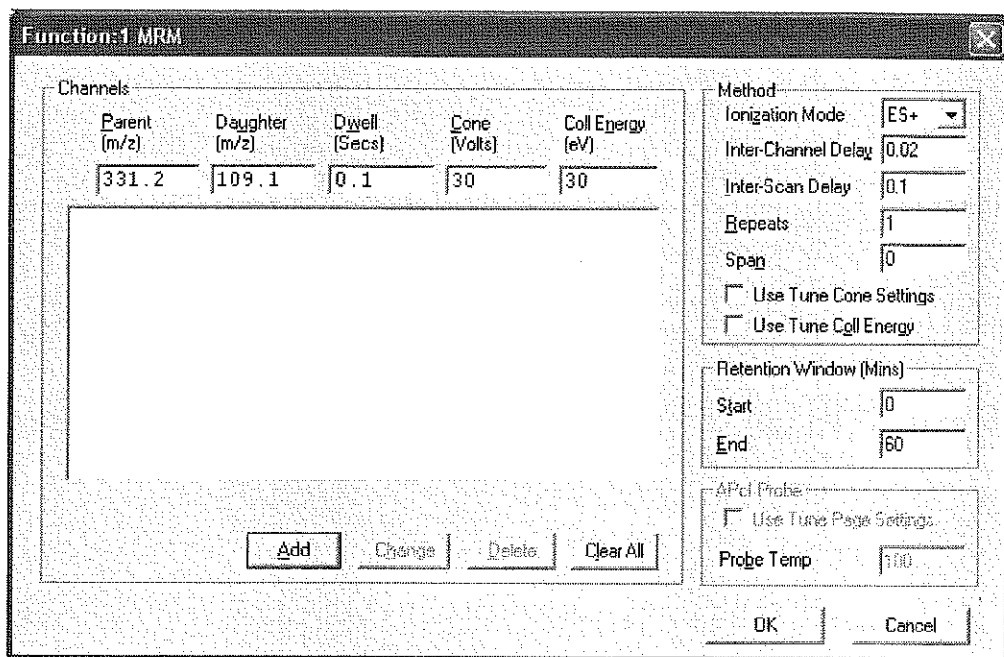

Figure 3-8 MRM Function Editor
3. Click to open the MRM Function Editor (Figure 3-8).